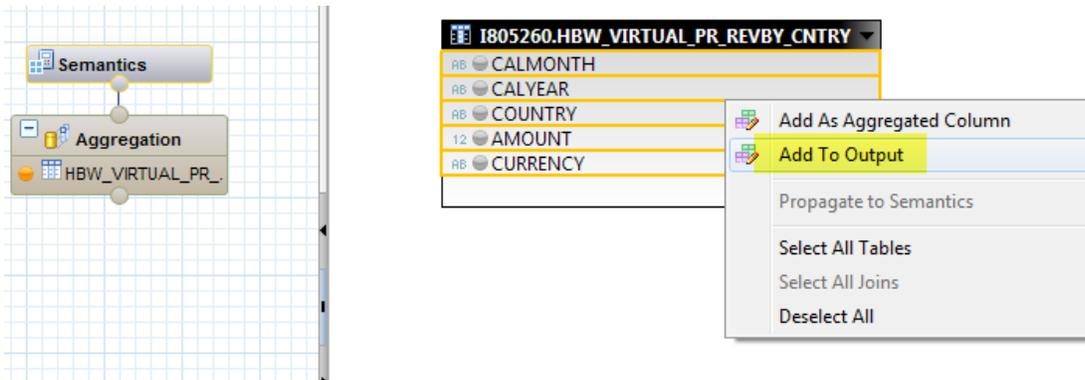

Figure 18 – Add to output
1.11 **Add fields to output** – The above step will display all the fields available in the virtual table. Select the fields from the table that you want to have in your planning applications and right mouse click to select 'Add to output' as shown in Figure 18. In this example, I have selected all the fields from the table.